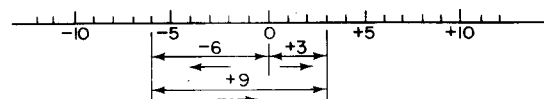

Fig. 1.16
1. To find the value of  $-6+9$ . Measure 6 units to the left of 0 to represent  $-6$ . From this point measure 9 units to the right to represent  $+9$ . The final result is 3 units to the right of 0 (Fig. 1.16).